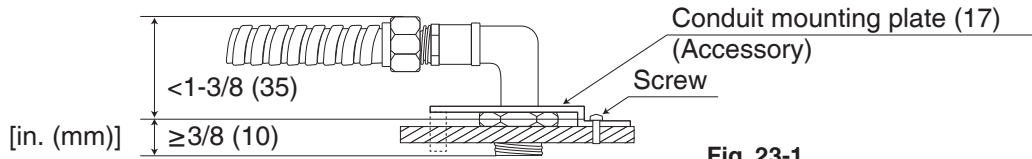
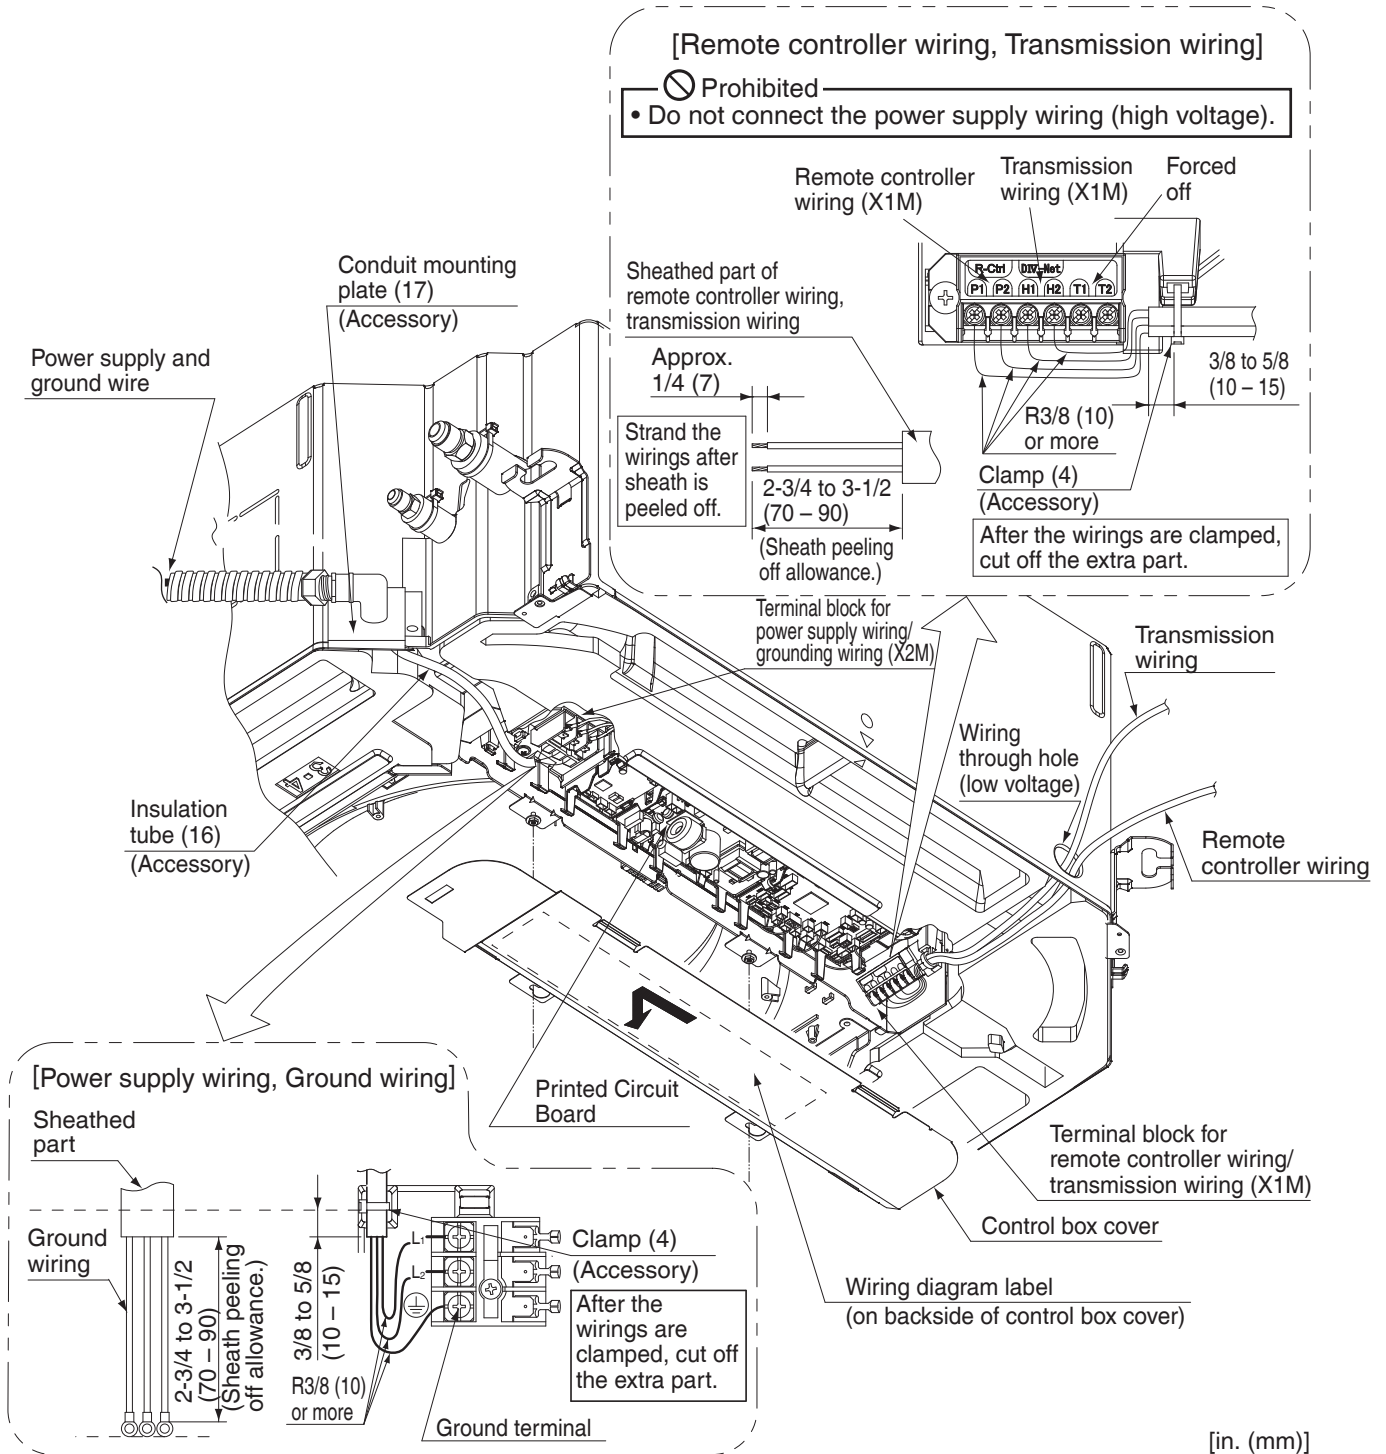

Fig. 23-1
Fig. 23-2
Pass the power supply wire through the attached insulation tube (16) between the outlet of conduit and the power supply terminal, and bind them together with the attached clamp (4). **(Refer to Fig. 23-2)**
Use a pair of conduit mounting plates (17) to connect a conduit to the unit as shown **Fig. 23-1**. After connecting the power supply wiring to [L₁ · L₂] on the power supply terminal block (X2M) and the ground wiring to the ground terminal, clamp them near the terminal block using the attached clamp (4). **(Refer to Fig. 23-2)**
Pull the wiring through the wiring through hole (low voltage). After connecting the remote controller wiring to [P1 · P2] and the transmission wiring to [H1 · H2] on the terminal block (X1M), clamp them near the terminal block using the attached clamp (4). **(Refer to Fig. 23-2)**
- Use a 90° elbow type of conduit with dimensions **Fig. 23-1** to prevent it from hitting the swing motor housing of decoration panel.